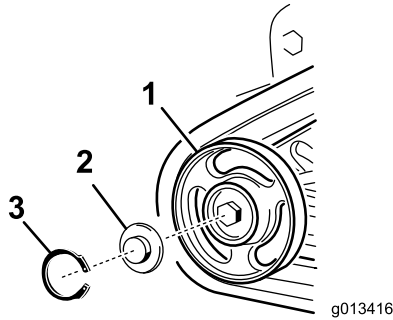

Figure 52
4. Remove the snap ring and cap from a road wheel (Figure 52).
5. Check the grease under the cap and around the gasket (Figure 52). If it is dirty, gritty, or depleted, clean out all of the grease, replace the gasket, and add new grease.
7. Place the greased road wheel cap over the bolt head (Figure 52).
8. Secure the road wheel cap with the snap ring (Figure 52).